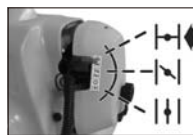

Fig. 9C
2. Your unit is designed with a 3 position choke: FULL CHOKE "I-I", HALF CHOKE "I-I", and RUN "I-I". Move choke lever to FULL CHOKE "I-I" position (Fig. 9C).